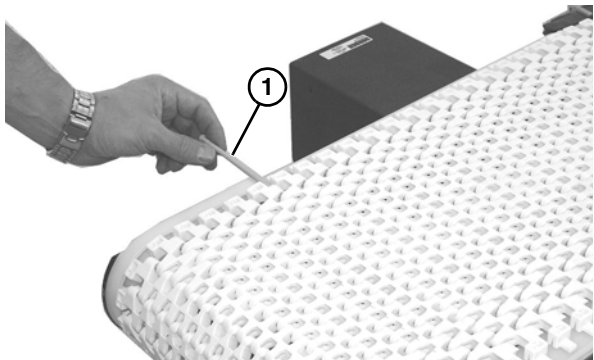

Figure 20
- Insert the belt rod (**Figure 20**, item 1).